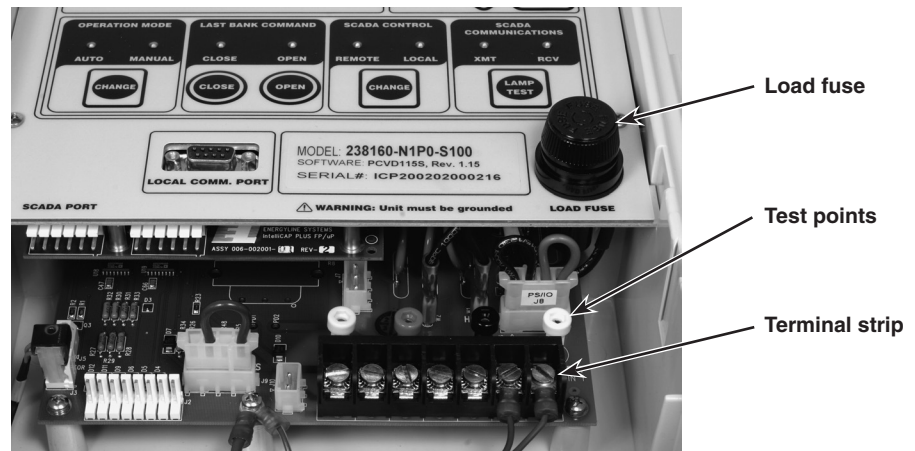

Figure 1. Capacitor control components.
Test points are accessible below the faceplate. See Figure 1.
- STEP 2.** Remove the fuse holder from the faceplate and replace the fuse. See Figure 1 on page 7.